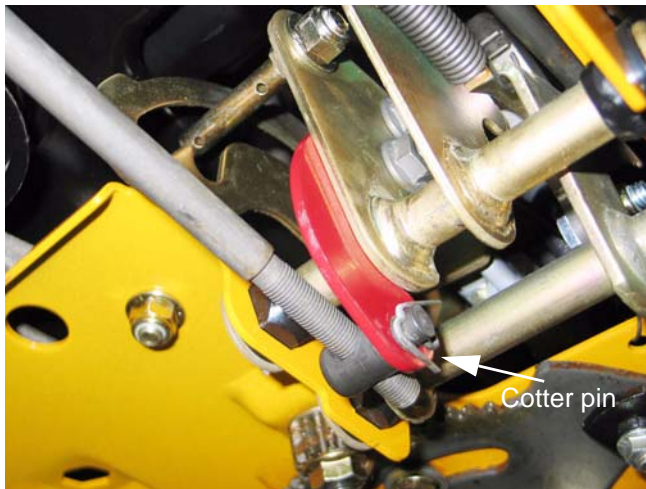

Figure 31.12
31.12. Disconnect the control rod from the pedal shaft by removing the cotter pin that secures the adjustable ferrule on the rod to the shaft. See Figure 31.12.